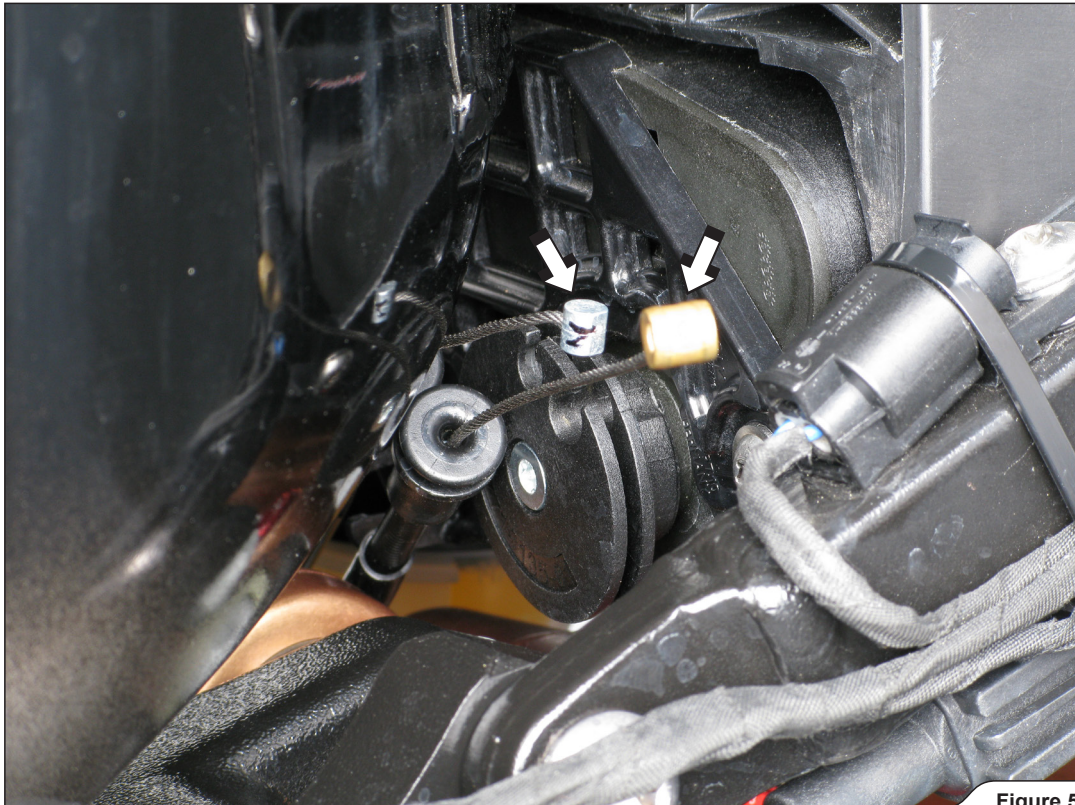

Figure 5
4. Remove the stock exhaust valve cables from servo motor (Figure 5).